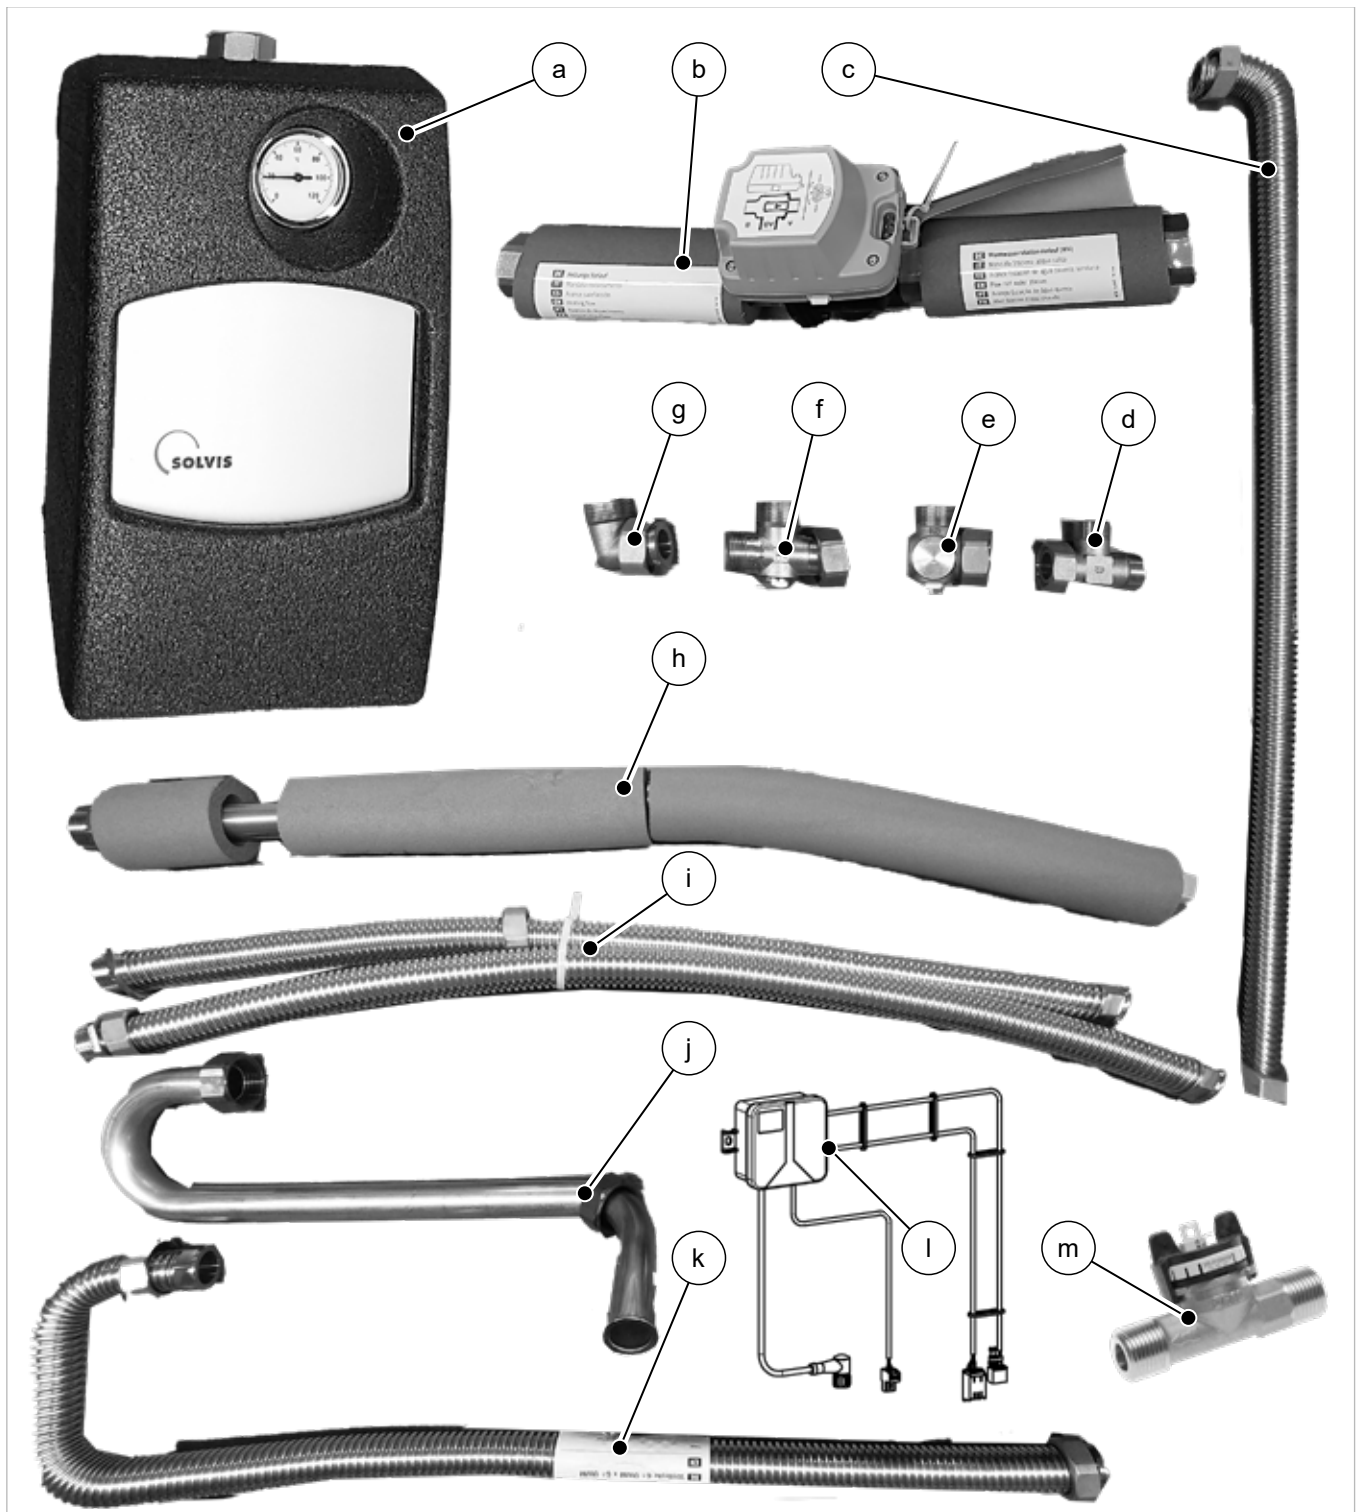

Fig. 1: Kits for converting SolvisBen and SolvisBen HKS with SolvisMia
For part designations with a letter, see also → fig. 1, p. 7.
3. Connect the volume flow sensor (m, see → fig. 1, p. 7) to the HP flow connection on the buffer charging station.
For part designations with a letter, see also → fig. 1, page 7).